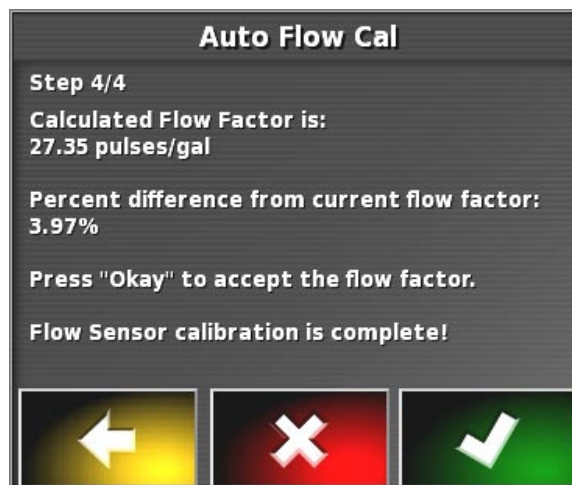

Figure 8.51 - Liquid Calibration Wizard - Screen 4
5. Refer to *Figure 8.51*. The system will automatically determine the calibration flow factor and percent difference from current flow factor. If satisfied, confirm results.